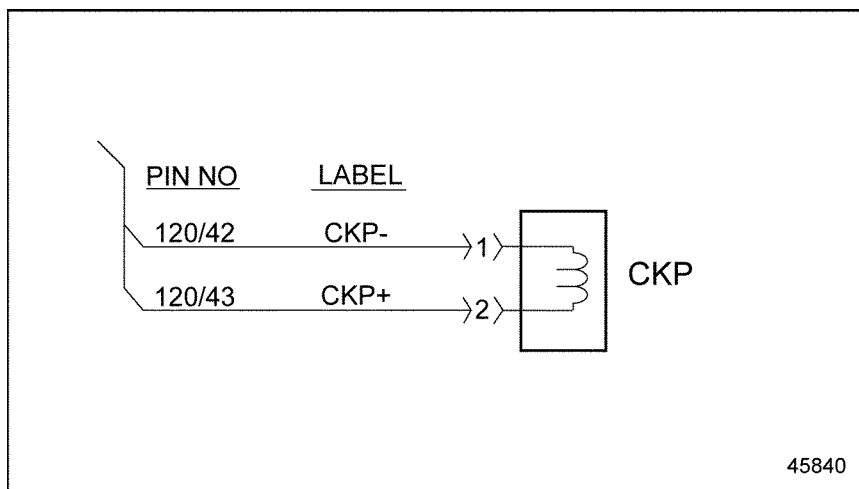

Figure 22-1 Crankshaft Position Sensor Wiring
1. If fault occurs only when cranking the engine (and engine will not start), check that the CKP and Camshaft Position (CMP) sensors are correctly wired to the MCM. See Figure 22-1.